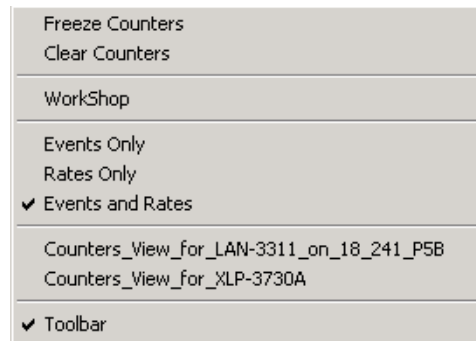

Figure 8-66. Pop-up Port Statistics Menu
- 4 Right-click while the cursor is positioned over the *Port Statistics* window. The menu in *Figure 8-66* is displayed.